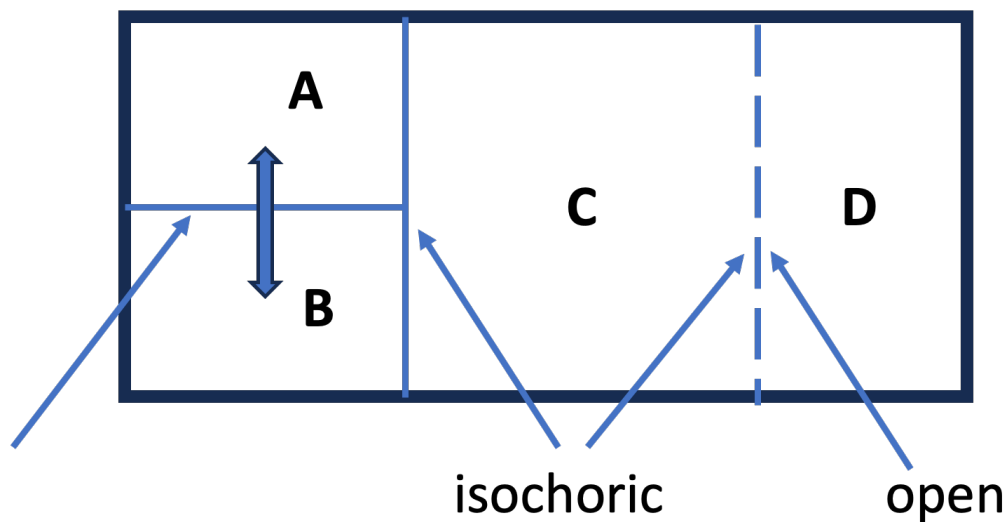

Fig. 3: A composite system.
- Fig. 3 is an example of a composite system made up of simple systems A, B, C, and D